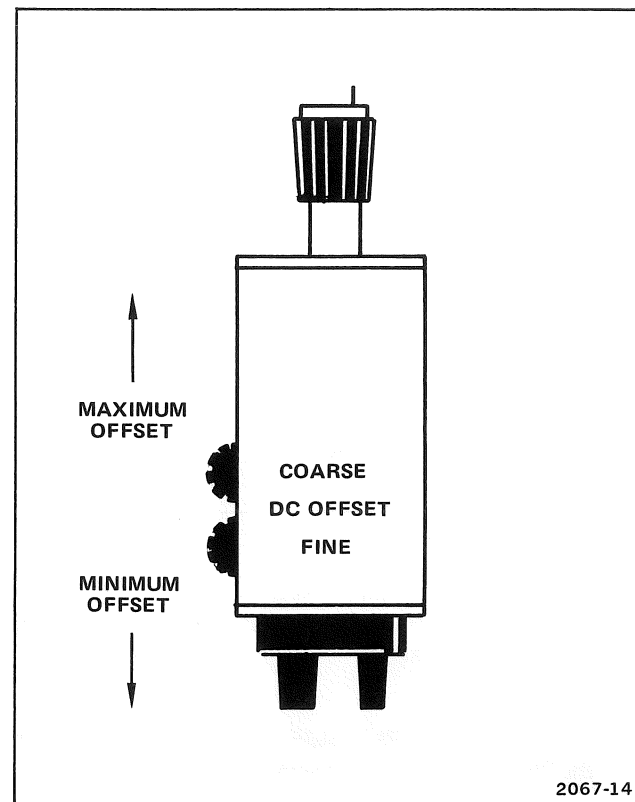

Figure 3-2. COARSE and FINE controls.
c. Set the P6202 COARSE and FINE controls for minimum offset (see Fig. 3-2). Set DC OFFSET switch to +.
f. Set the COARSE and FINE controls for maximum offset (see Fig. 3-2).